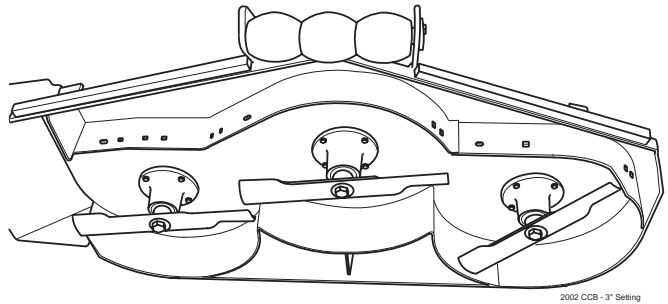

Figure 10. 3" Custom Cut Baffle Position
- A. 3" Position - baffle removed. (See Figure 10). With the baffle removed, the Advantage cutter deck will deliver the best quality-of-cut in very tall, wiry, tough to cut grass.
3. Move the Custom-Cut Baffle to desired position. (See Figures 10 through 12 for position)